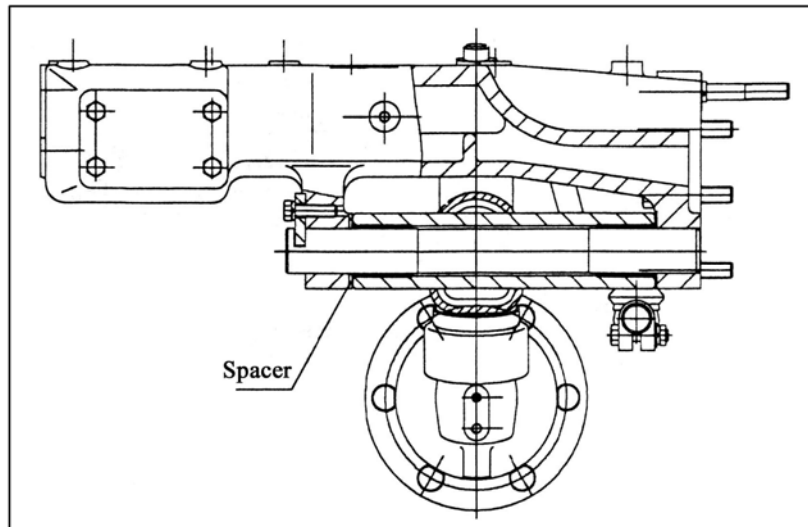

Fig.29 Adjustment of Clearances between the two ends of pivot center cover and between supports of front axles
6.6.3 Adjustment of Clearances between the two ends of pivot center cover and between supports of front axles (Fig.29):